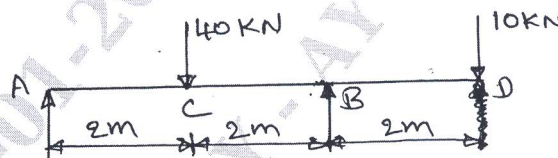

Fig.Q7(b)
- b. Determine the deflection under the loads in the beam shown in Fig.Q7(b). Take flexural rigidity as EI throughout.